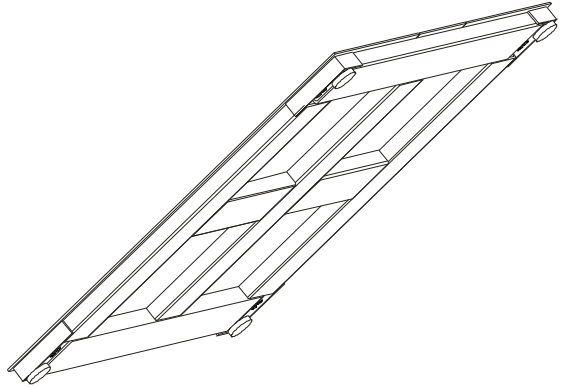

FIG. 17 ALL FOUR FEET INSTALLED
Step 5. Install all four (4) feet. (See Fig. 17)